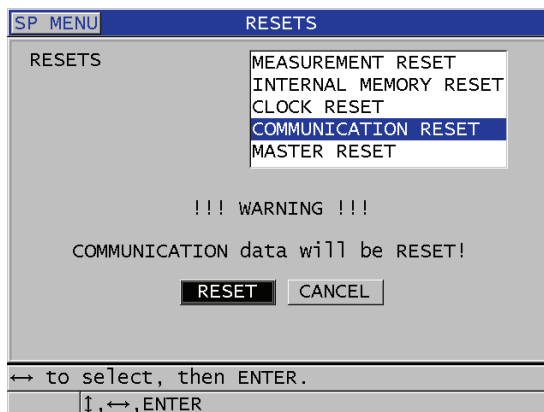

Figure 14-10 Selecting the **COMMUNICATION RESET**
3. In the **RESETS** screen (see Figure 14-10 on page 253):